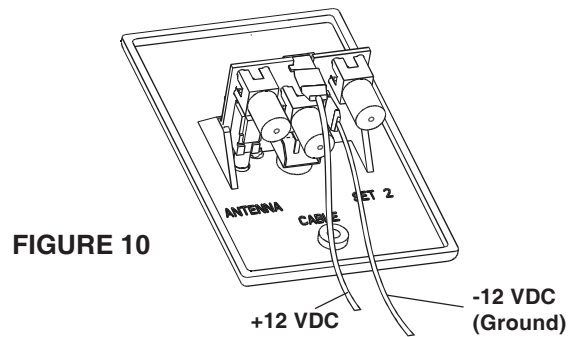

FIGURE 10
**STEP 12:** Make 12 volt connection to wall plate/power supply, Figure 10. Install terminals on wires from +12 VDC source, Figure 11. Crimp terminals with appropriate crimping tool or equivalent, Figure 12. Push wires onto tabs on terminal board as shown in Figure 10. If in doubt as to the polarity of the wires, connect them temporarily to tabs on circuit board and press ON switch on front of wall plate; if light comes on, polarity is correct, Figure 10.